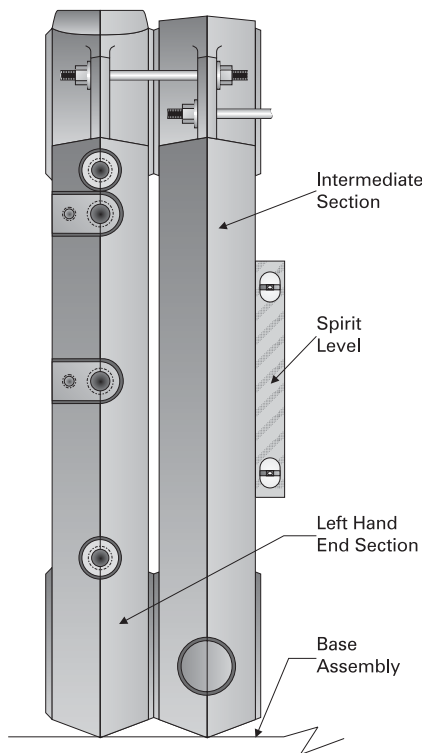

Figure 3.4: Align Sections Vertically
- d. Before tightening, check the vertical alignment of the sections using a spirit level. See Figure 3.4. Make sure they are square with the Base.